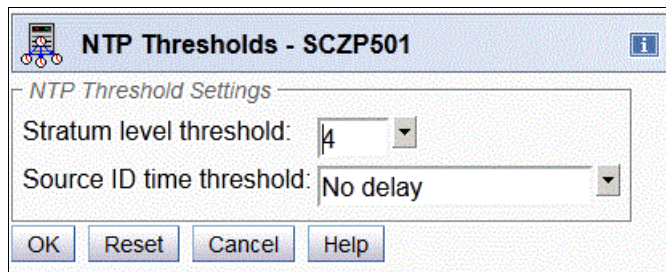

Figure 3-39 NTP Thresholds
2. In the NTP Thresholds window (Figure 3-39), you can change the following variables: